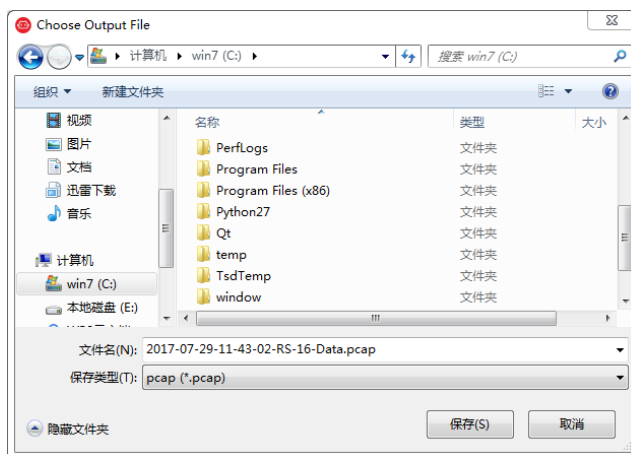

Figure A-6: RSView record data
2. In the dialogue box **“Choose Output File”**, choose the save path and file name of pcap file, click **Save** button (Fig. A-6), RSView begins writing data into pcap file. (Note: RS-LiDAR-M1(B3 sample) will generate enormous data, therefore, it is best to use a fast, local HDD or SSD, instead of a slow subsystem, such as USB storage LiDAR or network drive.)